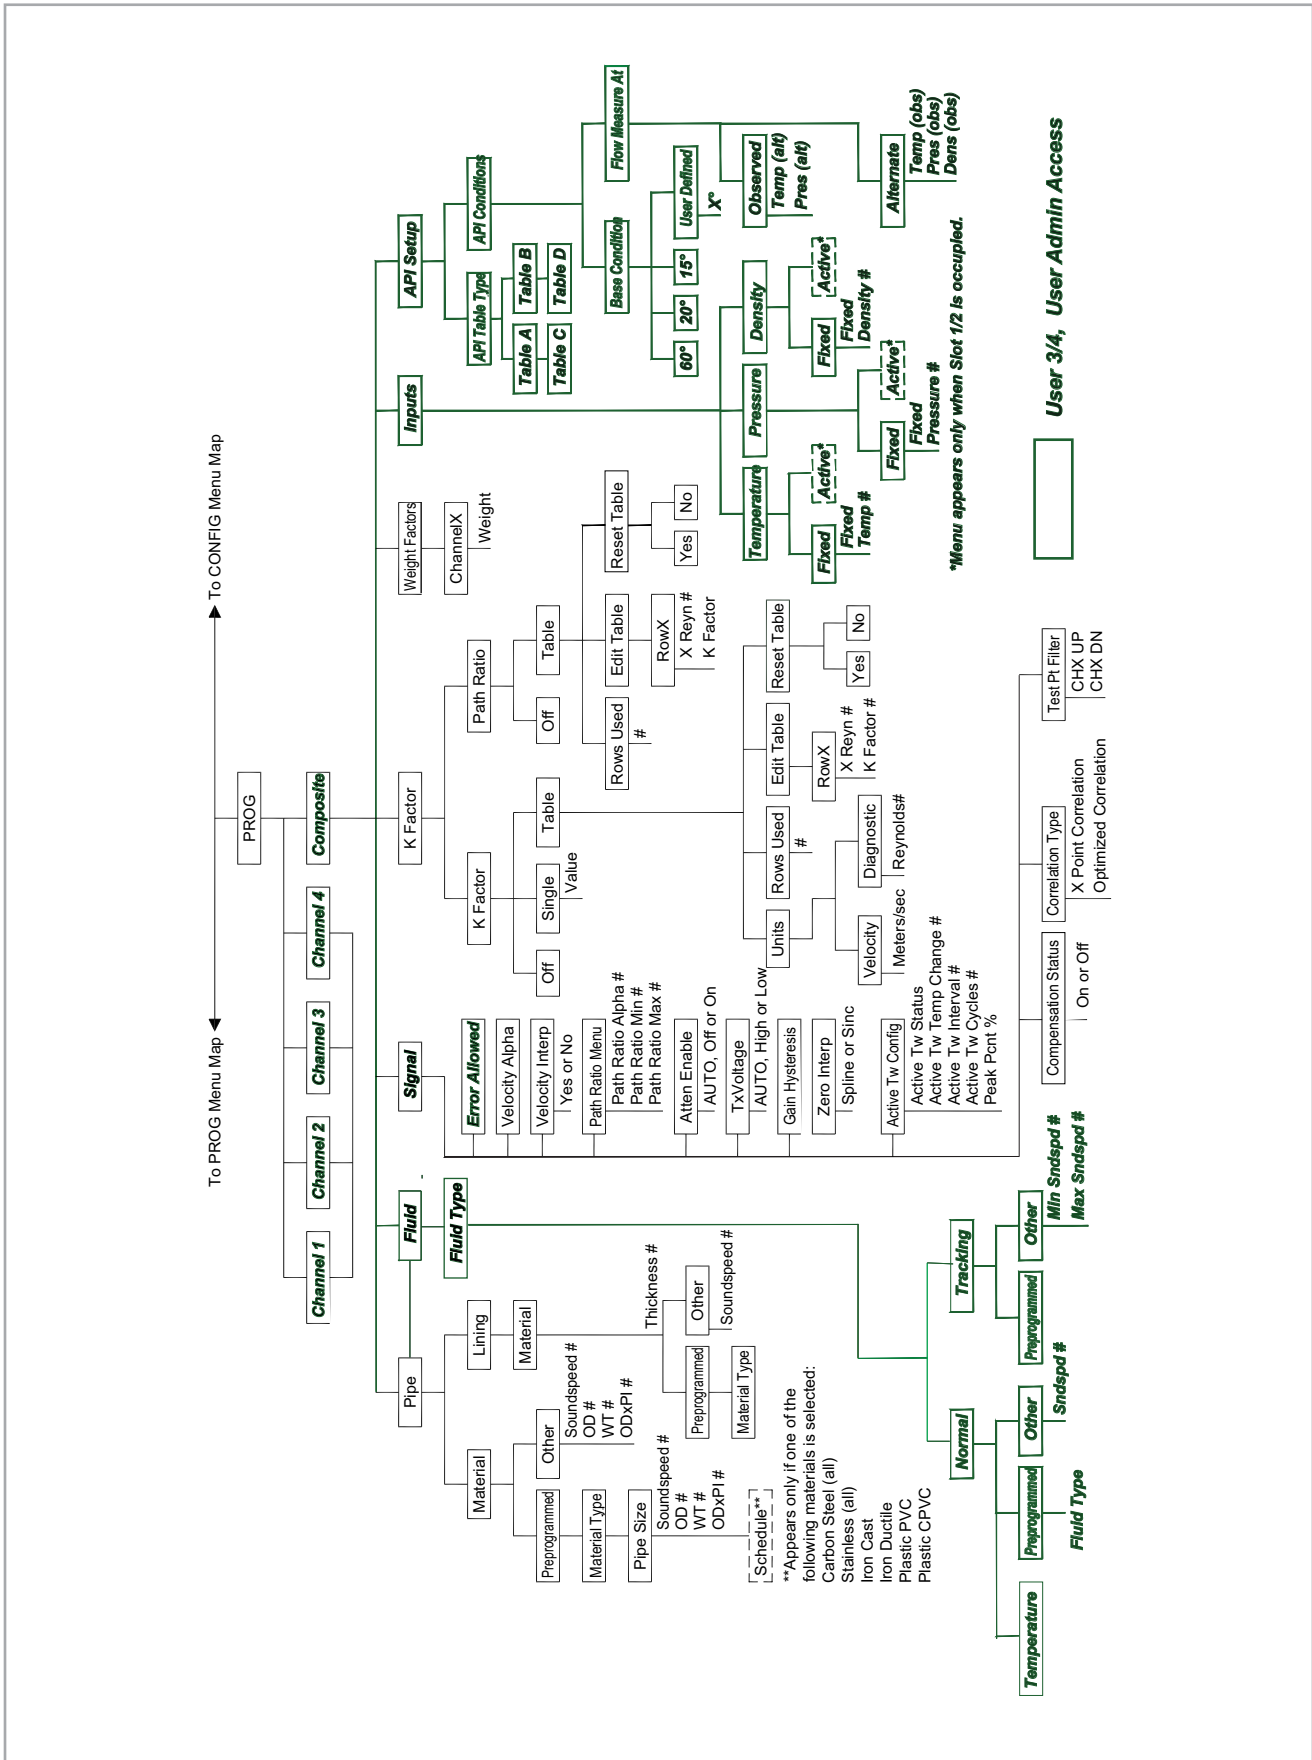

Figure 67: PROG-COMPOSITE menu map
- Figure 67, "PROG-COMPOSITE Menu Map," on page 93